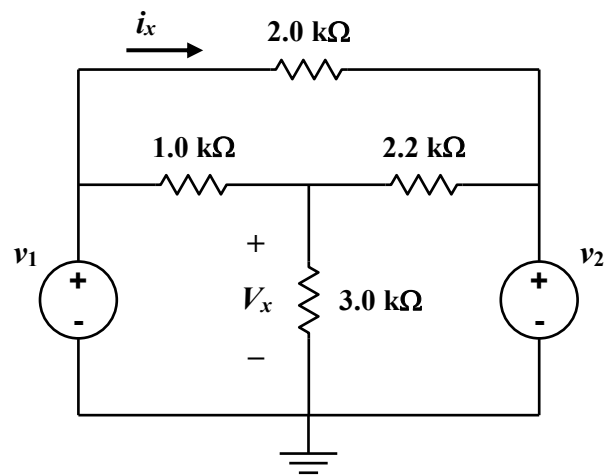

Figure 3.1
In this lab, you will verify the **Principle of Superposition** using the circuit shown in **Figure 3.1**.
In **Figure 3.1**, the current i_x is assumed to flow to the right; positive measurements mean current flows to the right; negative measurements mean current flows to the left.
2. With the power supply **not connected** to the circuit, set it up so that it is in **INDEPendent mode**. Use the **SLAVE** (left) supply for voltage v_1 , and the **MASTER** (right) supply for voltage v_2 (*Figure 3.1*). Set both voltages to zero. Set the **current limit** of both supplies to “10 o’clock”. **Turn off** the power supply.
14. Construct the circuit shown in **Figure 3.1**. Use the **SLAVE** supply as v_1 and the **MASTER** supply as v_2 .